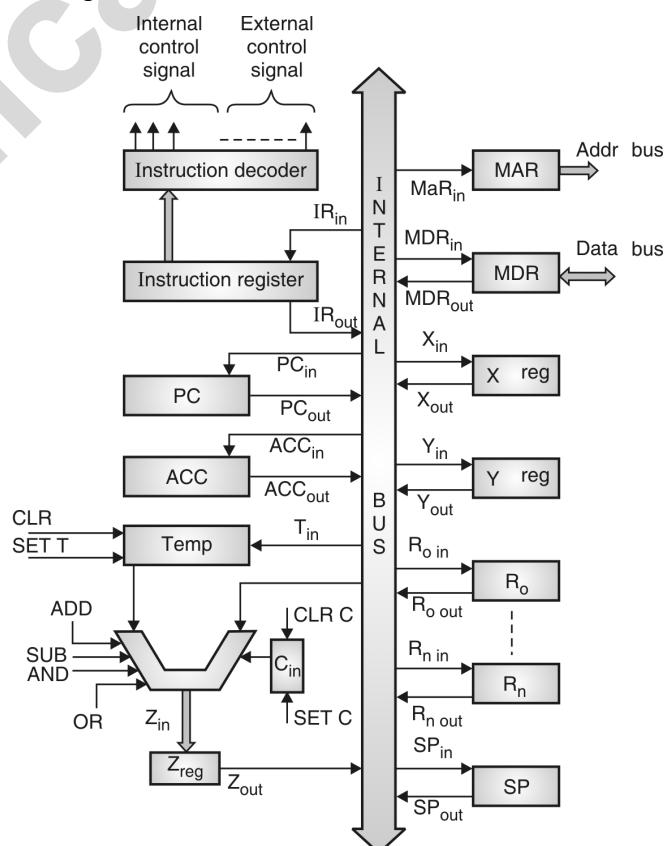

Fig. 9.6.1 : Data path structure with control signals
- The structure of the CPU seen in section 9.5 is shown in details in Fig. 9.6.1.
- Fig. 9.6.1 shows the structure of the CPU with these micro-instructions or the control signals.
- There are some registers like the register 'Y' to provide one of the operand to the ALU as shown in the Fig. 9.6.1.